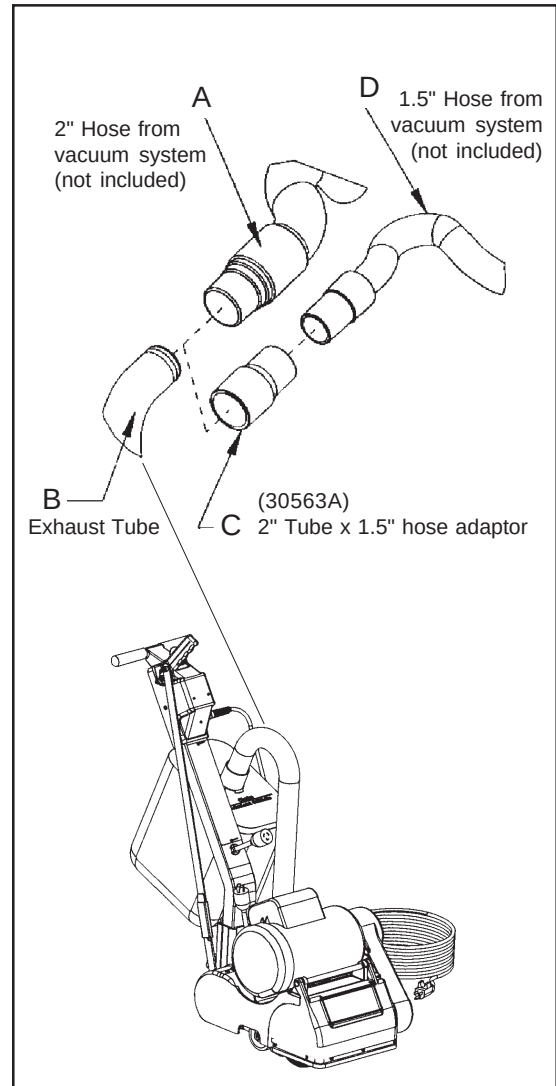

Figure 9
- Install 2" hose end (figure 9, A) directly over the exhaust tube (figure 9, B).
- Install the 2" x 1½" hose end adaptor (Part No. 30563A) (figure 9, C) over the exhaust tube (figure 9, B).
- Insert 1½" hose end (figure 9, D) into the adaptor (figure 9, C).